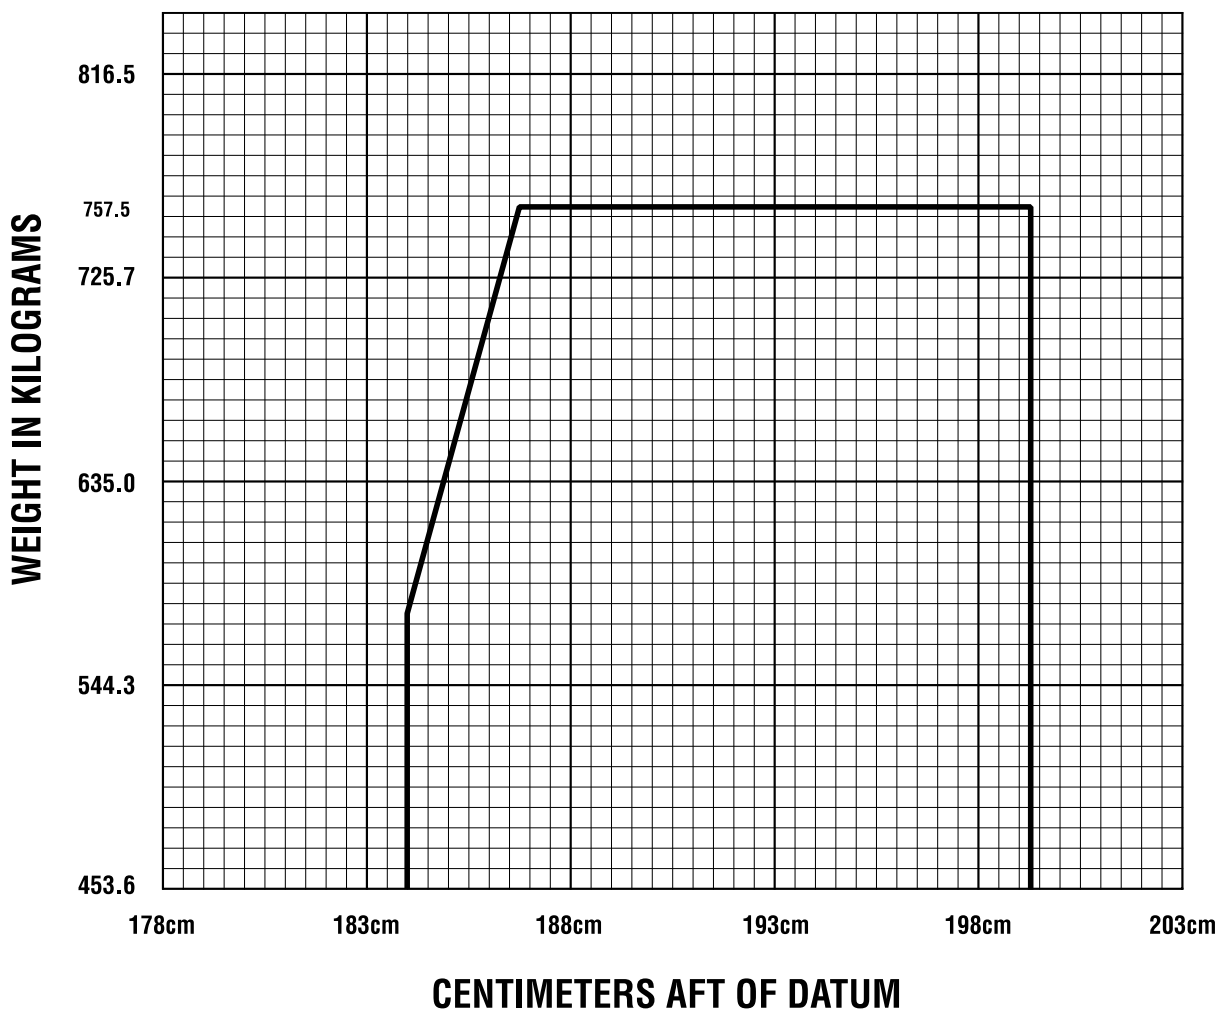

Fig. 11-5. CofG Range and Weight.
In order to achieve the optimum performance and flying characteristics which are designed into the aircraft, it must be flown with the weight and centre of gravity (CofG) position within the approved operating range (CofG Range and Weight graph - Figure 11-5). Although the aircraft offers flexibility of loading, it cannot be flown with the maximum number of adult passengers, full fuel tanks and maximum baggage. With flexibility comes pilot responsibility. The pilot-in-command must ensure that the aircraft is loaded within the loading envelope before takeoff.
- Use the total aircraft weight and the calculated CofG position on the CofG Range and Weight graph (Figure 11-5) to locate a point.
The CofG of this example loading problem is at 196.35 cm aft of the datum. Locate this point (196.35) on the CofG Range and Weight graph (Figure 11-5). Since this point falls within the CofG Range and Weight envelope, this loading example meets the weight and balance requirements.